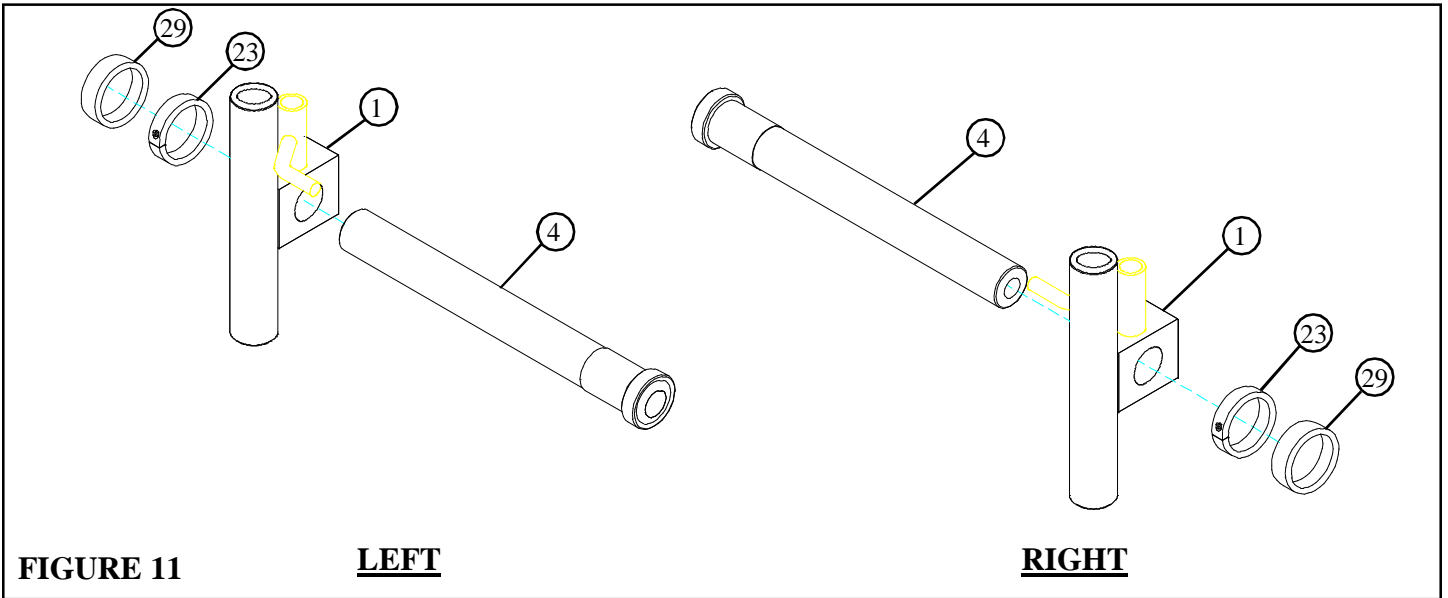

FIGURE 11
- Slide one BEARING HOUSING (1), one 2" SHAFT COLLAR (23), and one 2-1/2" OD RUBBER BUMPER (29) over each SLEEVE ASSEMBLY (4) as shown in FIGURE 11.
- Using a 1/4" Allen wrench, SECURELY tighten each set screw on the 2" SHAFT COLLARS (23). See FIGURE 11.